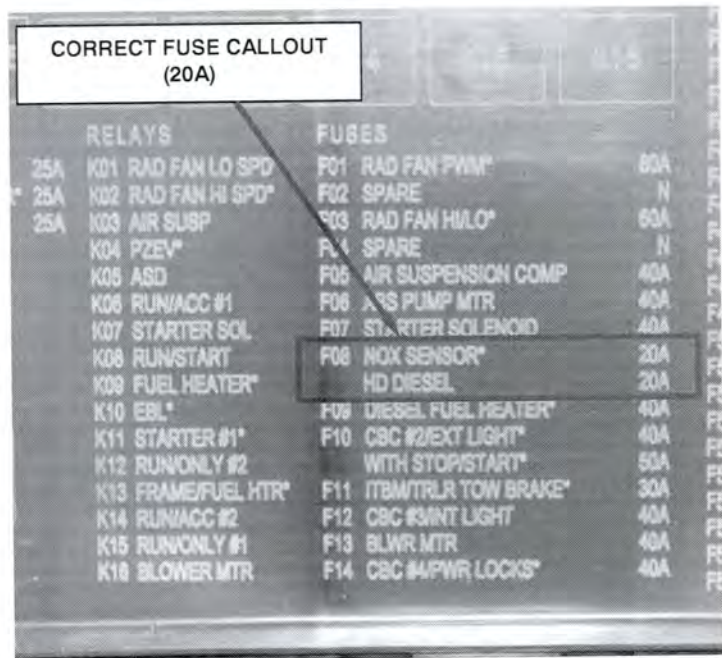

Figure 2 – Correct Fuse Callout on PDC Cover
4. Inspect the PDC cover laser etching (Figure 2).
- If the laser etching on the PDC cover states “NOx Sensor 30A or 40A” and “HD Diesel 30A or 40A” continue to **Step 5** (Figure 2).
- If the laser etching on the PDC cover states “NOx Sensor 20A” and “HD Diesel 20A” continue to **Step 7** (Figure 2).